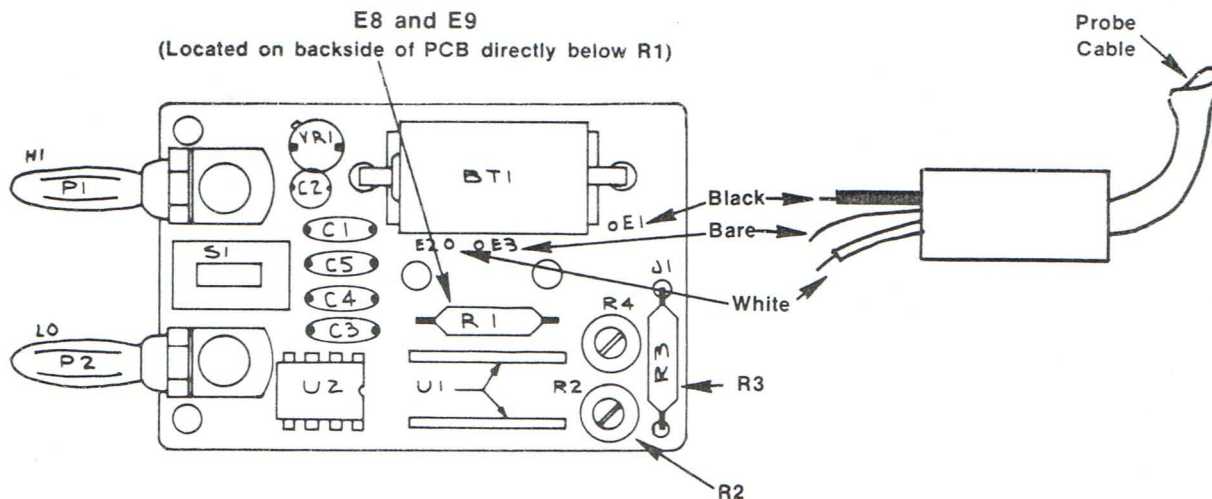

Figure 1.
2. NOTE THE LOCATION OF THE WHITE, BLACK, AND BARE CABLE LEADS (SEE FIGURE 1).
3. ADJUST R2 (SEE FIGURE 1) UNTIL THE PROBE READING AGREES WITH THE MONITORED LAG-BATH TEMPERATURE. IF R2 REACHES A LIMIT, NOTE WHETHER THE READING IS ABOVE OR BELOW THE LAG-BATH TEMPERATURE, AND BY HOW MUCH. ALSO, CHECK TO SEE IF JUMPER POINTS E8 AND E9 ON THE PCB ARE OPEN OR SHORTED. THEN REFER TO THE TABLE BELOW AND EXERCISE THE CORRECTION THAT AGREES WITH YOUR OBSERVATIONS.